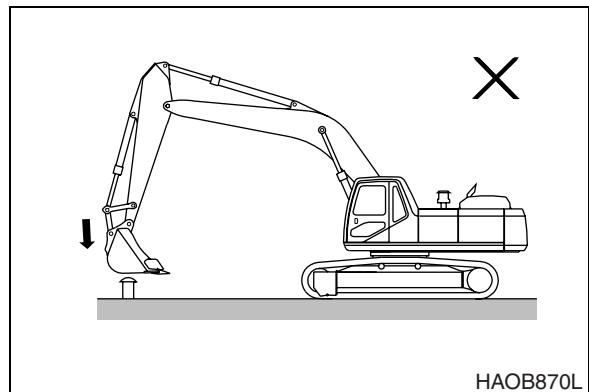

Figure 61
13. Do not use the bucket as a hammer or ramming device. This is dangerous and causes damage to the front attachment. See Figure 61.